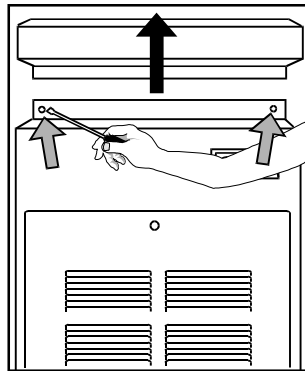

Figure 3.
2. Remove the top by removing all eight screws connecting it to the jacket (see Figure 3).